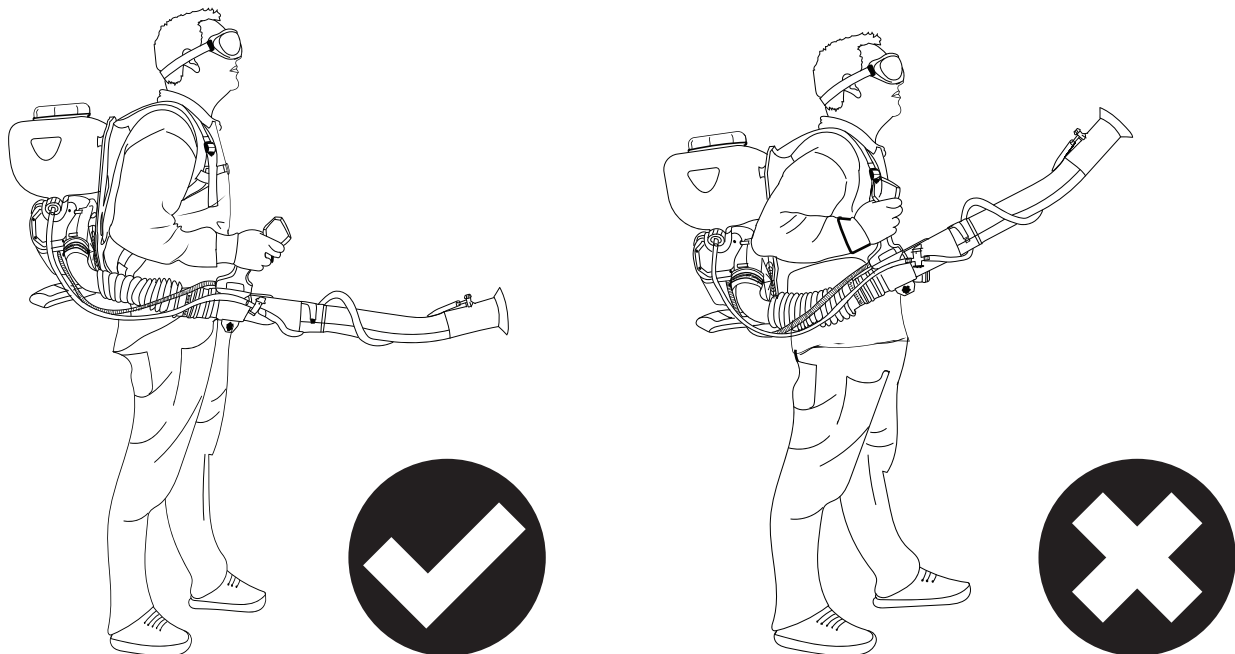

FIGURE 16
7.1.4 This tool operates with a gravity fed tank. The nozzle should always be angled downward or parallel with the ground. **FIGURE 16.**